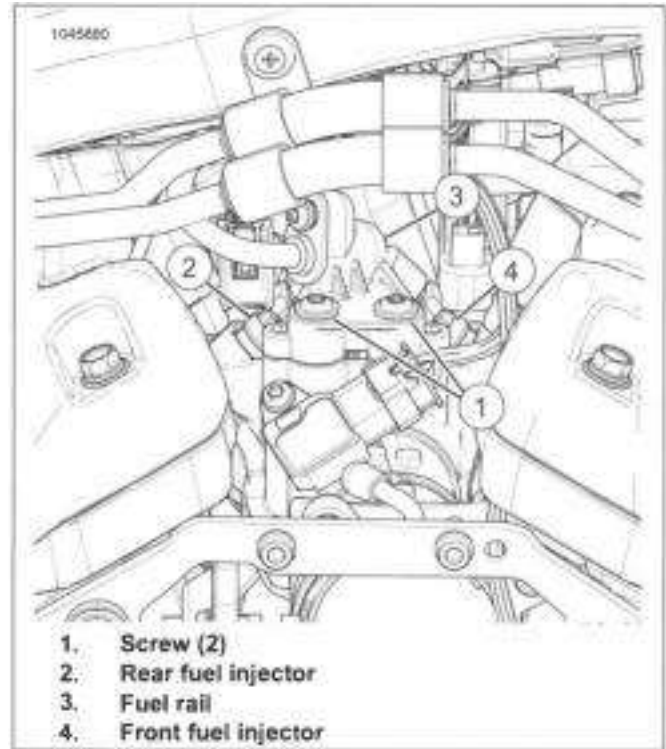

Figure 6-33. Fuel Injectors
2. See Figure 6-33 . Remove fuel rail and fuel injectors.
- a. Remove screws (1).
- b. Remove fuel rail (3).
1. See Figure 6-33. Install fuel injectors to intake manifold.
- a. Install fuel rail (3).
- b. Install screws (1). Tighten.